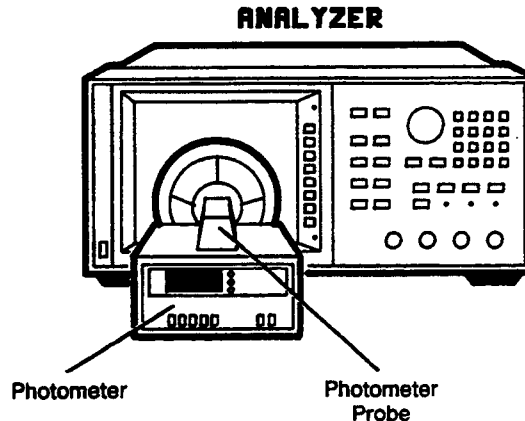

Figure 3. Maximum Intensity Adjustment Set-up
8. Center the photometer on the analyzer CRT as shown in Figure 3. Adjust the analyzer front panel knob to the maximum (clockwise) position. If the photometer registers greater than 150 NITs, turn the front panel knob until a reading of no more than 150 NITs registers on the photometer. If the photometer registers a reading of less than 150 NITs and greater than 100 NITs, proceed to the next step. If the photometer registers a reading of less than 100 NITs, the display is faulty.
10. Center the photometer on the analyzer CRT as shown in Figure 3. Adjust the analyzer front panel knob until the photometer registers 100 NITs of output light if the glass bezel assembly is not installed. Adjust for 60 NITs if the glass bezel is installed.